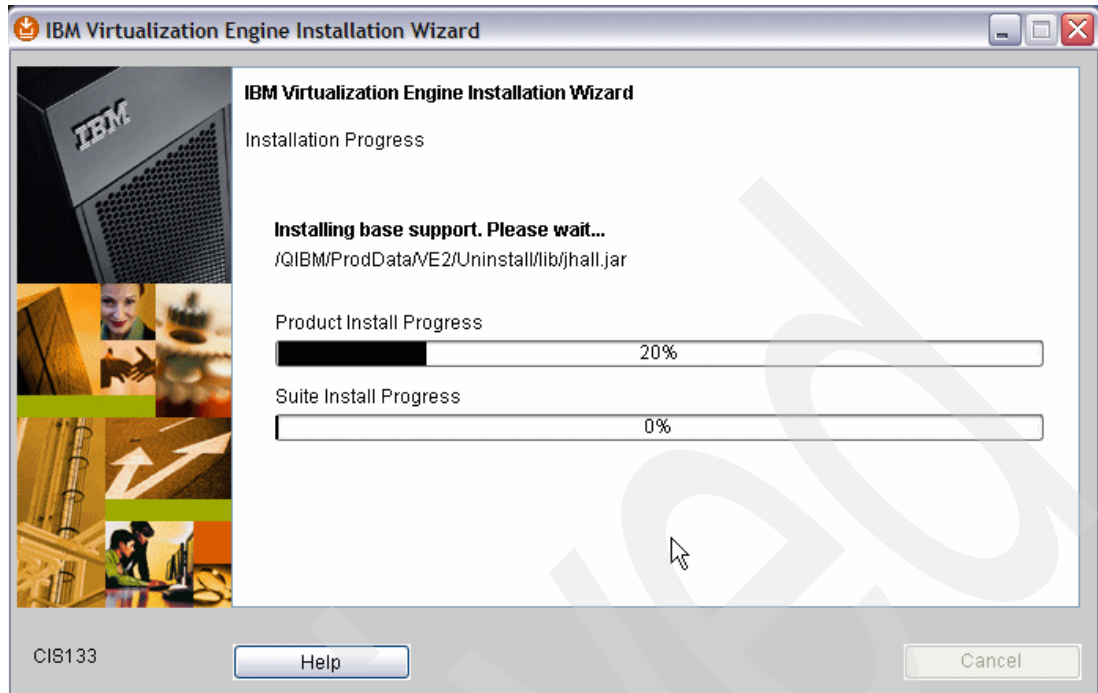

Figure 5-22 Installation progress window IBM Virtualization Engine Base Support
17. An Installation Progress window (Figure 5-22) opens to indicate the installation progress for IBM Virtualization Engine base Support.